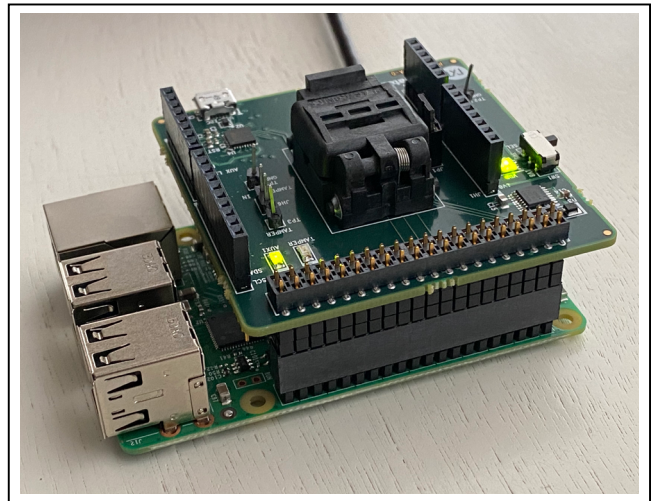

Figure 3. MAXQ1065 Socket Board Attached to a Raspberry Pi through an Elevated Header
- 4) Connect the MAXQ1065 socket board on top of the Raspberry Pi, as shown in Figure 3.